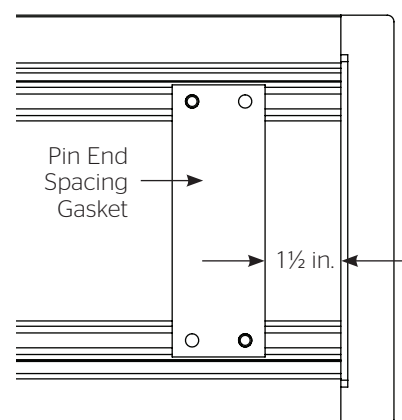

Figure 8
5. Slide the pin end spacing gasket until it is approximately 1 $\frac{1}{2}$ inches from the end of the case (Figure 8).